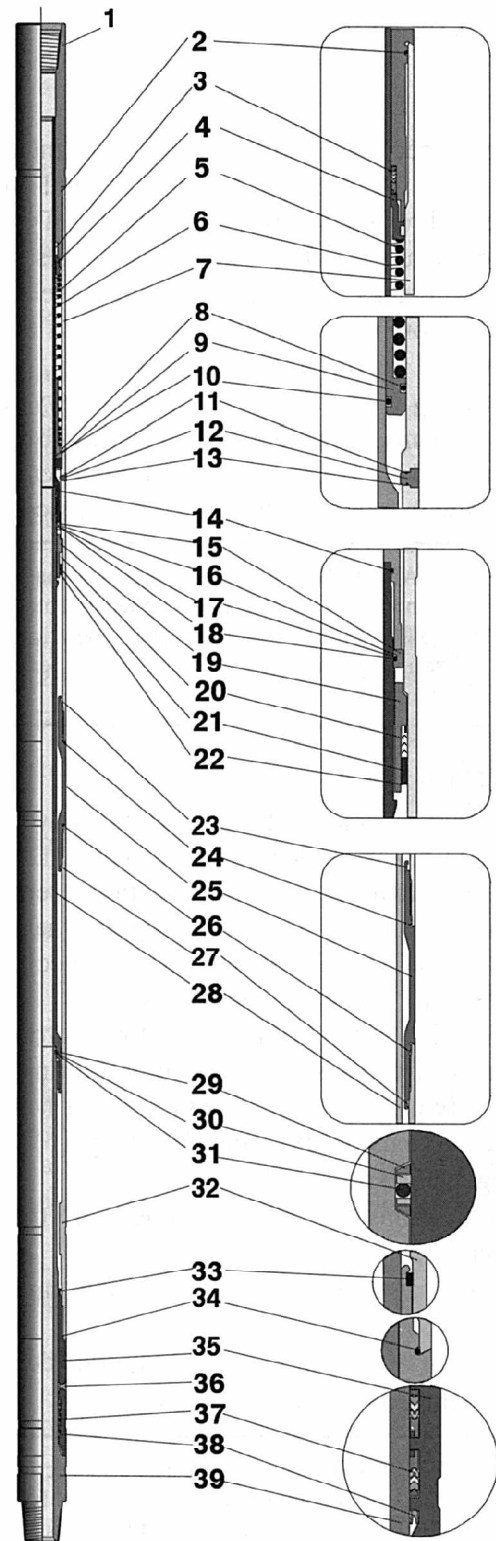
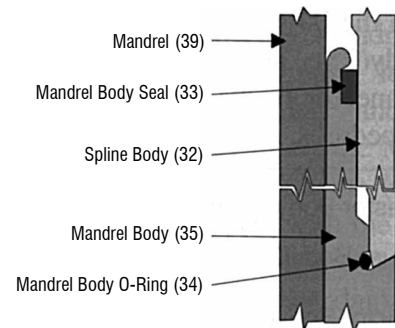
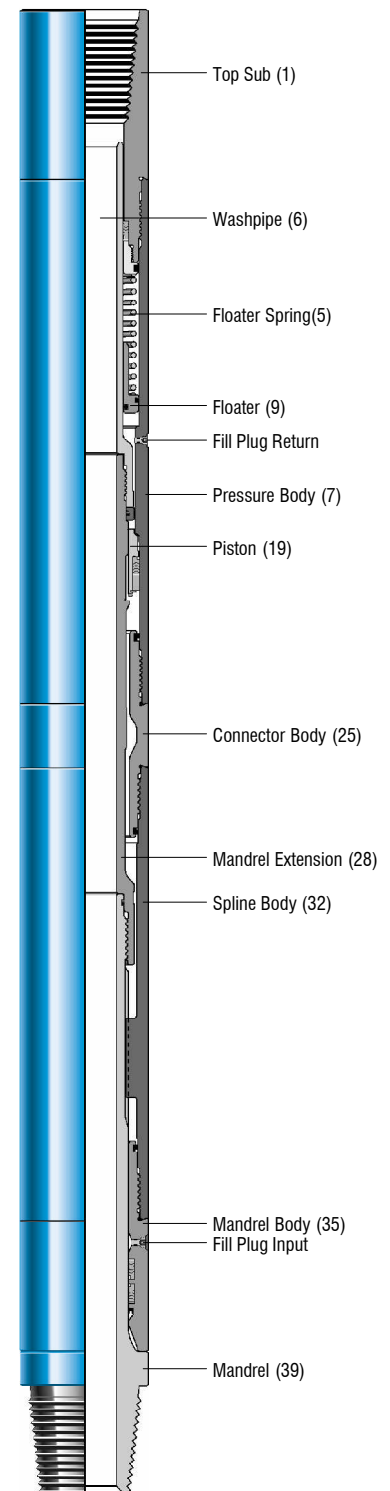

Figure 6-1
Figure 8-1: Mandrel Body O-Ring and Seal
Figure 8-11: Super II Jar Intensifier Part Layout
- In Figure 6-1 on page 7, the Item Number in parentheses indicates the location of parts as shown in the diagram.
- Each Item Number corresponds to a Part Name and specific Part Number in the chart accompanying Figure 6-1 and in the "Replacement Parts" list on page 7.
- "Top" and "bottom" refer to the ends of the Jar Intensifier as it is run in a fishing string; i.e., the Mandrel (39) is on the bottom end, while the Top Sub (1) and Washpipe (6) is on the Top.
- To prevent damage during servicing, do not use vise, tongs, wrenches, or chains over Fill Plug (12), on any seal surfaces, or on any other smooth surface of the tool.
- In Figure 6-1 on page 7, the item number in parentheses indicate the location of parts as shown in the diagram.
- Each item number corresponds to a Part Name and specific Part Number in the chart accompanying Figure 6-1 in the "Replacement Parts" list.
2. Mandrel Body (35) Install the Mandrel Body Packing Set (36)(37) into the ID of the stencil groove end of the Mandrel Body (35) as illustrated in Figure 6-1. Install the Mandrel Body Wiper (38) into the ID on the stencil end as seen in Figure 8-1. Install the Mandrel Body (35) O-Ring, and the Mandrel Body (35) Seal on the OD of the non-stenciled groove side of the Mandrel Body (35).
Refer to illustration Figure 6-1 which contains the item numbers of the total parts, and Figure 8-11 which provides the major component part broken out by name.